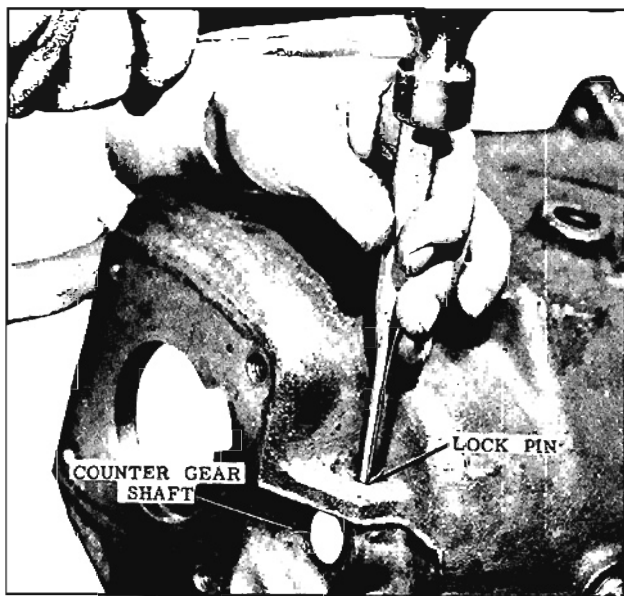

Fig. 7-16 Driving Lock Pin Into Shaft
18. Drive the counter gear shaft lock pin into the shaft. (Fig. 7-16)